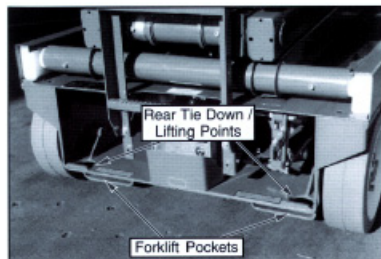

Figure 5: Parking Brake Release, Rear Tie Downs
1. Secure straps to Chassis Lifting Lugs only (Figure 5 & 6).
2. Secure the work platform to the transport vehicle with chains or straps of adequate load capacity attached to the chassis tie down lugs (Figure 5 & 6).